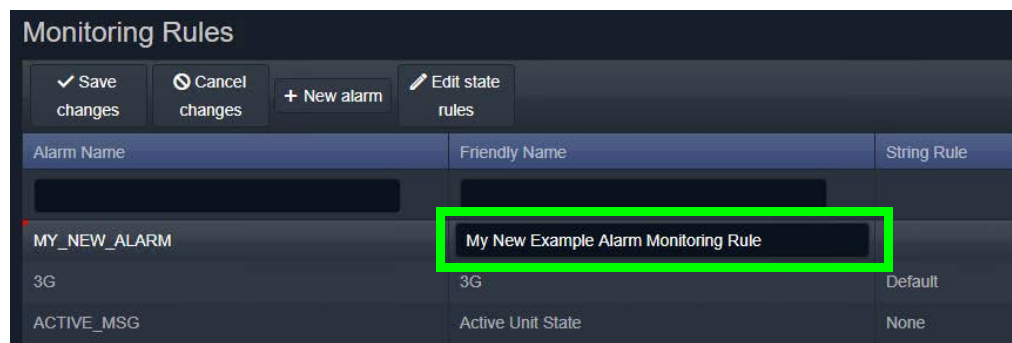

Figure 61: Enter a Friendly Name for the Monitoring Rule
- 3 Enter a friendly name (title) for the new **Monitoring Rule**, a human-readable text string. See Figure 61.